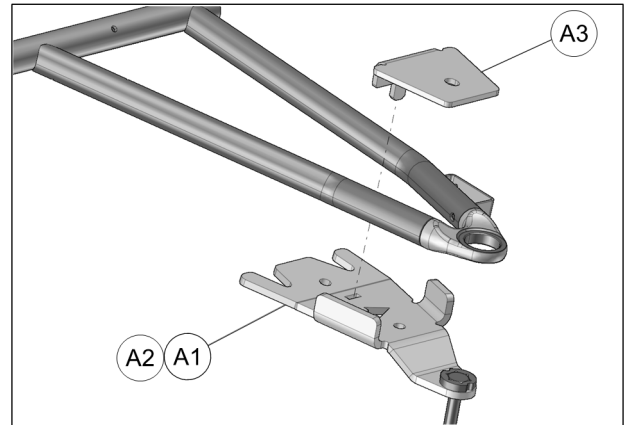

Fig. 16
5. Position bottom part of anchor bracket (A1-A2) under lower suspension arm. Position top part (A3) over suspension arm and insert tenon in mortise cut in bottom part. See Fig. 16